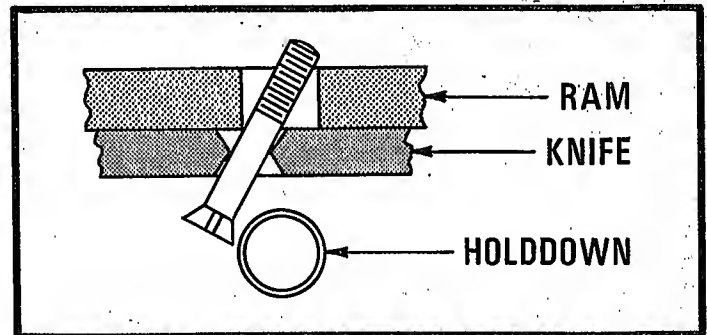

FIGURE 58
8. Push the upper knife to the left as far as possible to remove the remaining bolts. Refer to Figure 58.
43. Push the upper knife to the left to install the knife bolts behind the holddown units. Refer to Figure 58.